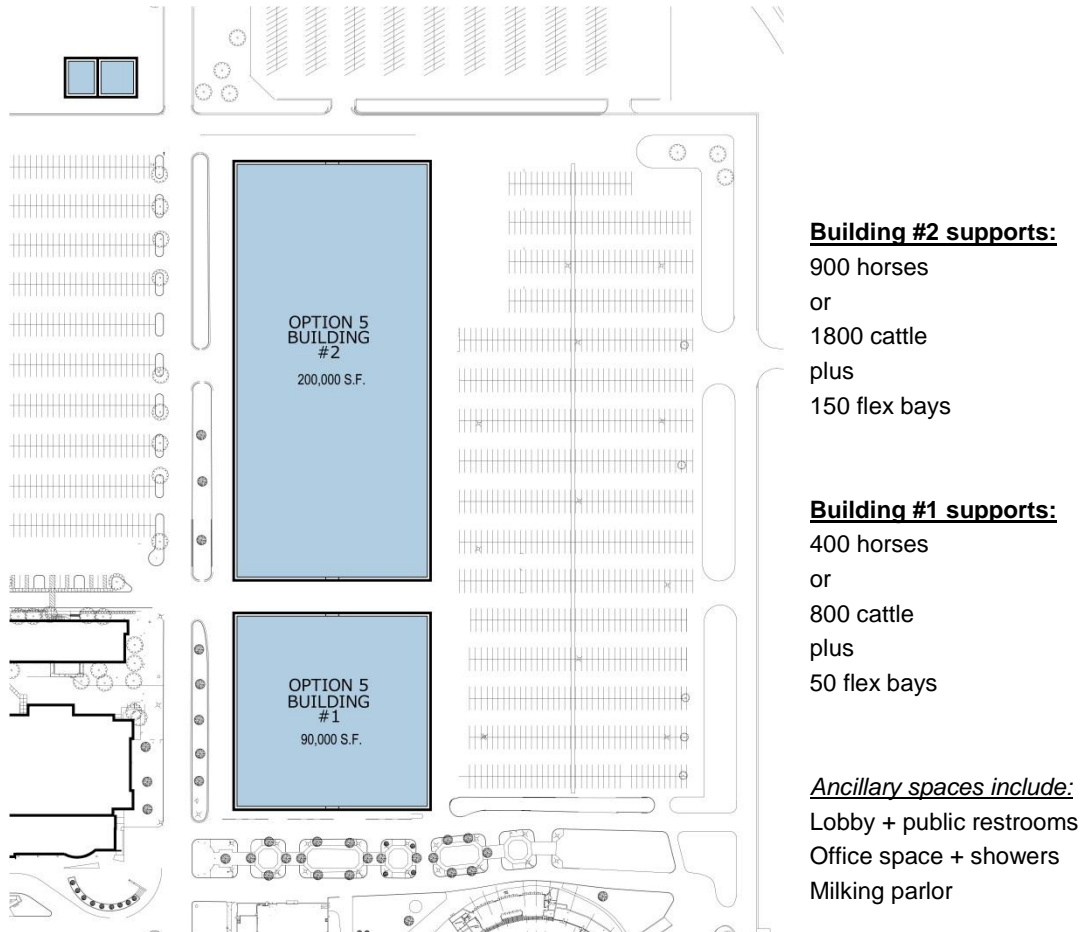

Figure 1.3
- Figure 1.3 Option 5 Site Diagram
Option 5 (see figure 1.3) was ultimately chosen as the best balance of cost, quality and function. It represented the ideal building placement on site, worked well in terms of transitioning the gently sloping site grades, was able to be constructed during a single off-season, met the programmatic requirements of user groups and provided an equity of accommodations that was not possible in other options.